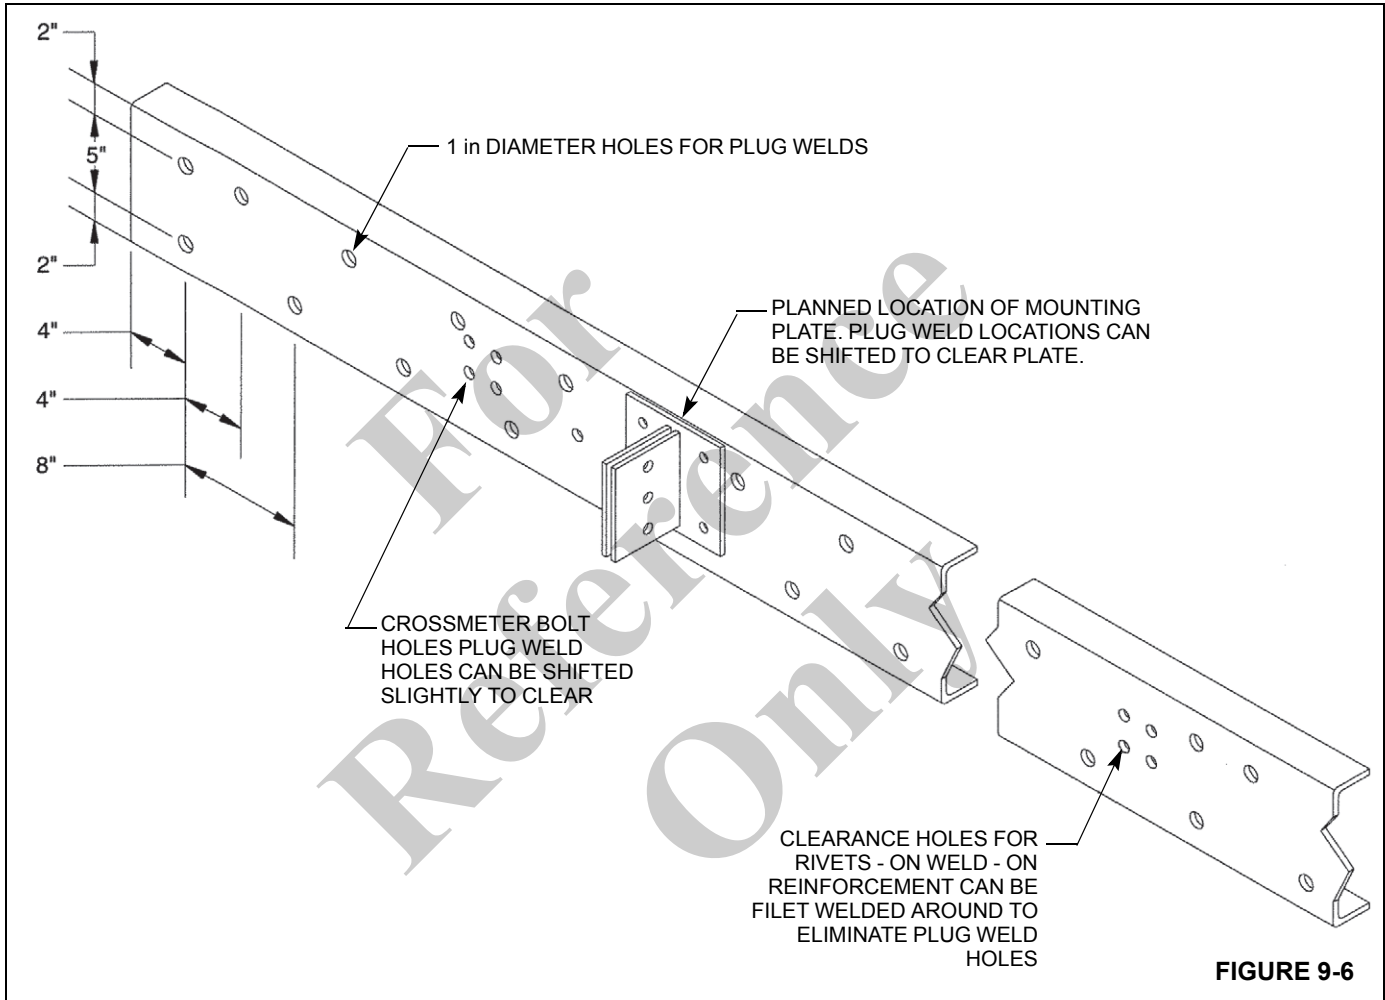

FIGURE 9-6
Install reinforcing, clamp in place, install any crossmember bolts that were previously removed and weld to truck frame as shown in Figure 9-6.
7. If reinforcing angle is to be welded to truck frame, cut out plug weld hole pattern as in Figure 9-6.